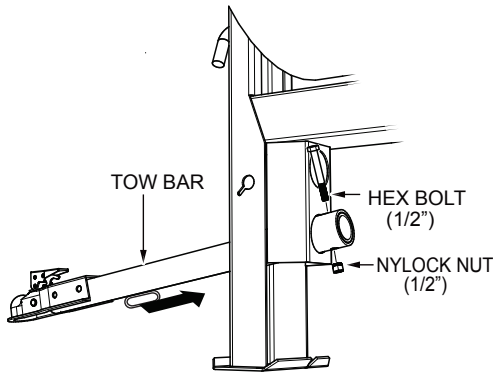

Figure 7. Inserting Tow Bar
1. Insert the tow bar through the round opening at the bottom of the mixer stand (Figure 7).
2. Align the hole on the tow bar with the hole on the mixer frame (Figure 7), and insert 1/2-inch bolt through tow bar and frame. Secure tow bar to frame with 1/2-inch nylock nut. Tighten to 40 ft.-lbs.